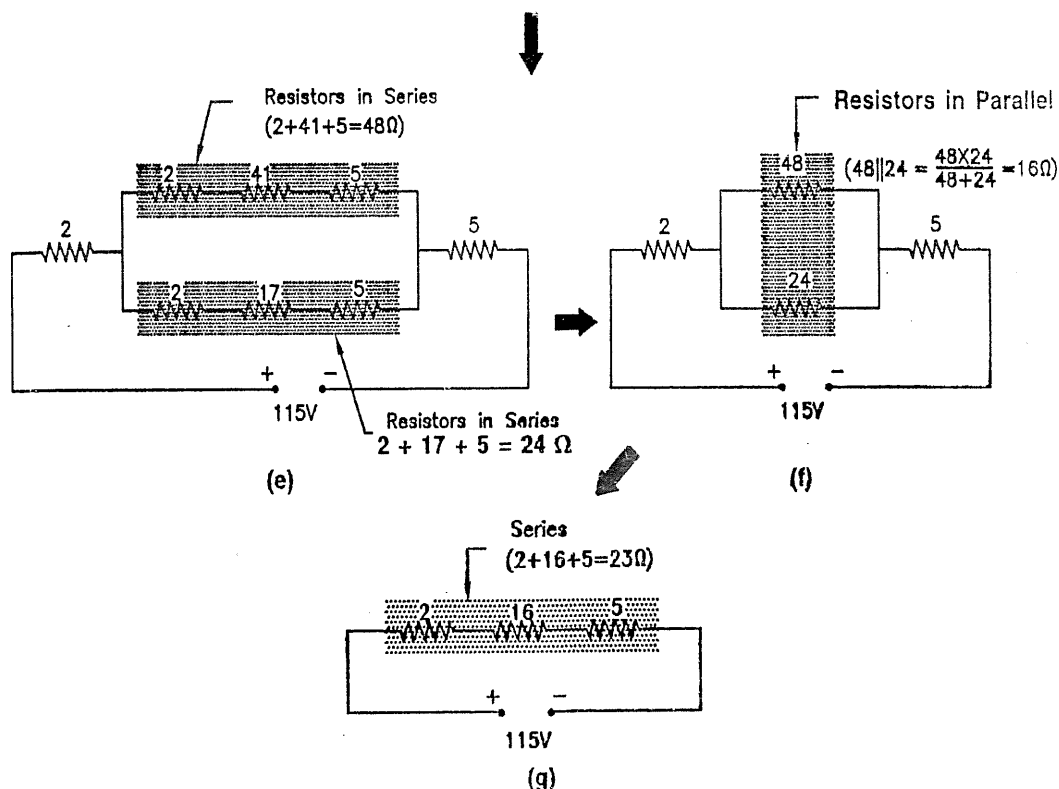

FIG. 1.52
- The resistances of $11\ \Omega$ and $4\ \Omega$ are in series and similarly $2\ \Omega$ and $4\ \Omega$ are in series. Combining the series combinations we get the circuit as shown in Figure 1.52 (a).
After Δ/Y transformation, the network can be represented as shown in Fig. 1.52(d).
The above circuit can be redrawn as shown in figure 1.52(e).
Now above network of Fig. 1.52(e) can be represented as shown in Fig. 1.52(f).
In the circuit of figure 1.52(f) 24 Ω and 48 Ω resistors are in parallel and this parallel combination is in series with 2 Ω and 5 Ω resistors.
The current through 17 Ω resistor is the same as the current in 24 Ω resistor of Fig. 1.52(f). The circuit current divides in 24 Ω and 48 Ω. So current in 17 Ω resistor is given by,